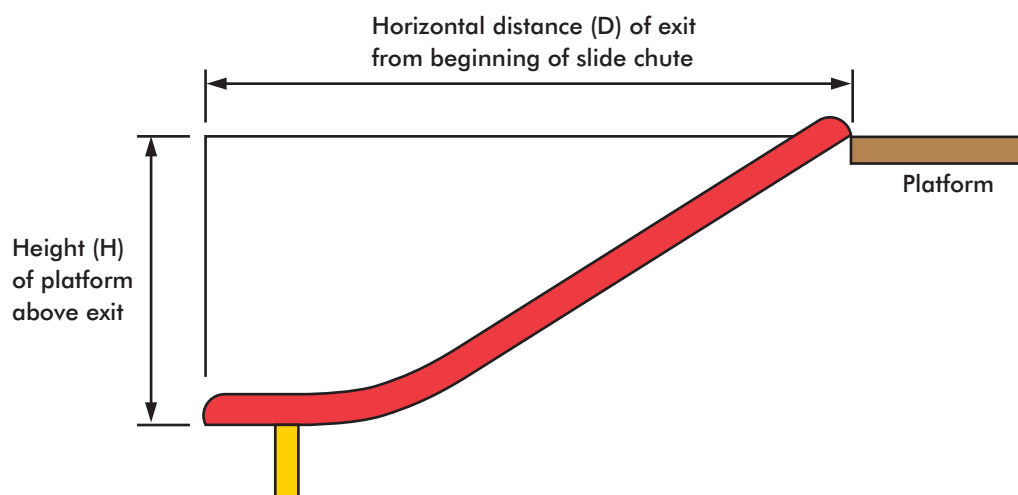

Figure 20. Slide Slope
- The average incline of a slide chute should be no more than 24° (that is, the height to horizontal length ratio shown in Figure 20 does not exceed 0.445).
- The average incline of a slide chute should be no more than 30° (that is, the height to horizontal length ratio shown in Figure 20 does not exceed 0.577).